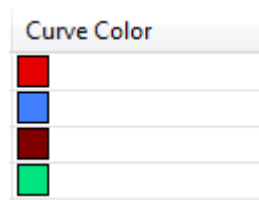

Figure 3. Curve color column with specified colour
- The specified colour square appears in the selected column cell (see Figure 3).